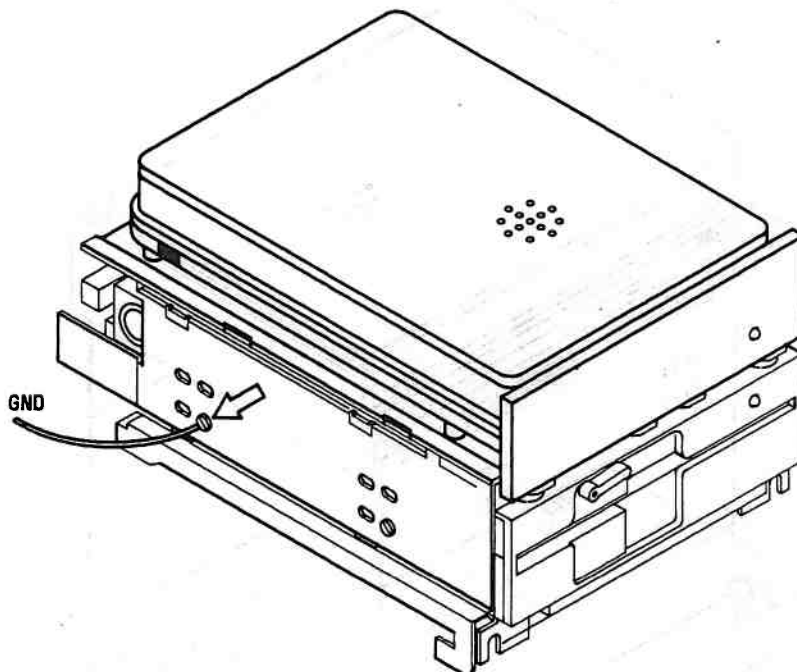

Figure 5-60. Removing the Drive Assembly Ground Strap
- Using a standard screwdriver, carefully remove the screw(s) from the side of the assembly that secures the ground strap(s) and remove the assembly from the System Module (Figure 5-60).